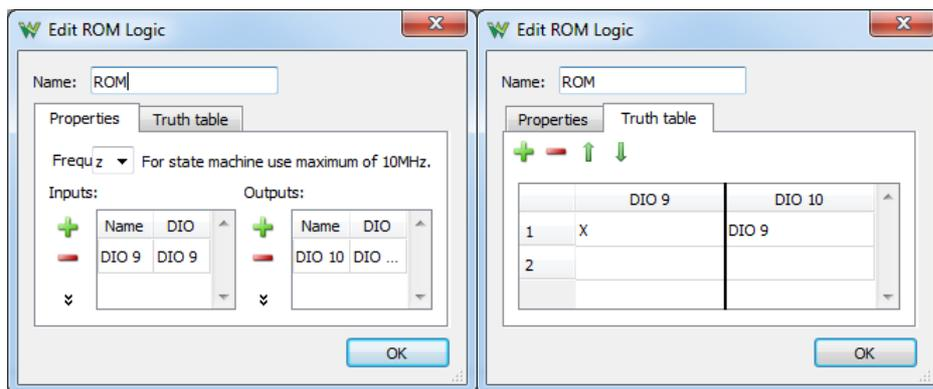

Figure 8.8 ROM logic for PDM
- WaveGen: *constant (DC) = 4.5V*.
- *DIO10: ROM logic, 200kHz, DIO10 <= DIO9* (see Figure 8.8).